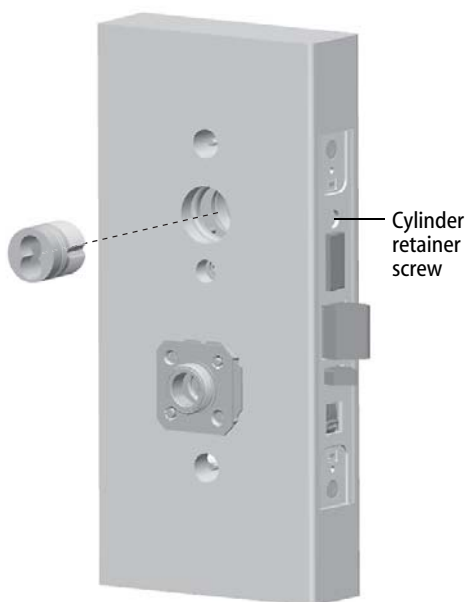

Figure 13 Installing the concealed cylinder
- 1 Use a cylinder wrench to thread the cylinder into the mortise case so that the groove around the cylinder is even with the door surface as shown in Figure 13.
- 3 Insert the control key into the core and rotate the key 15 degrees to the right.
- 5 Rotate the control key 15 degrees to the left and withdraw the key.